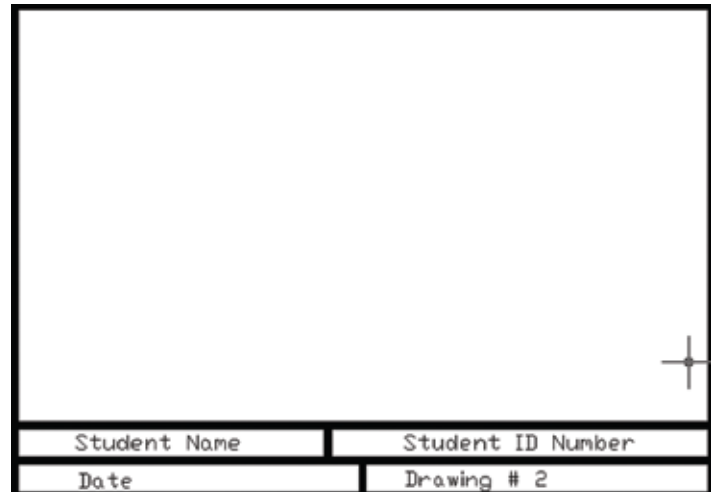

Figure 2.2
Figure 2.2 shows how your border should look when complete.
7. **Continue to draw** the title box using the .05-wide Polyline command until it looks like Figure 2.2 or “Draw-2” at the end of the chapter.